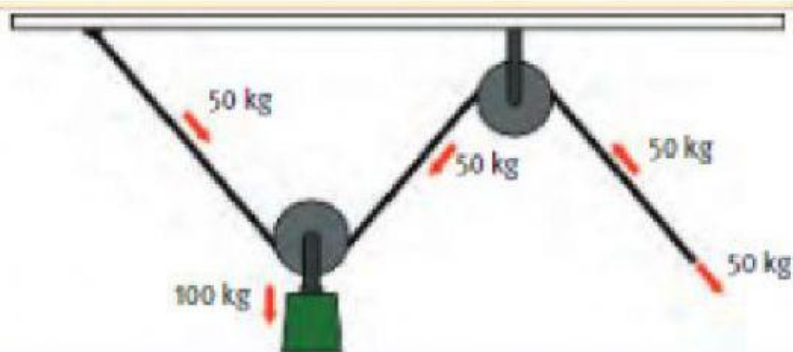

FIGURE 12 A block and tackle system
- 1 Study **FIGURE 12**. In a class discussion, talk about why the system in **FIGURE 12** is different from the systems in **FIGURE 10** and **FIGURE 11**. How does adding one more pulley change things?